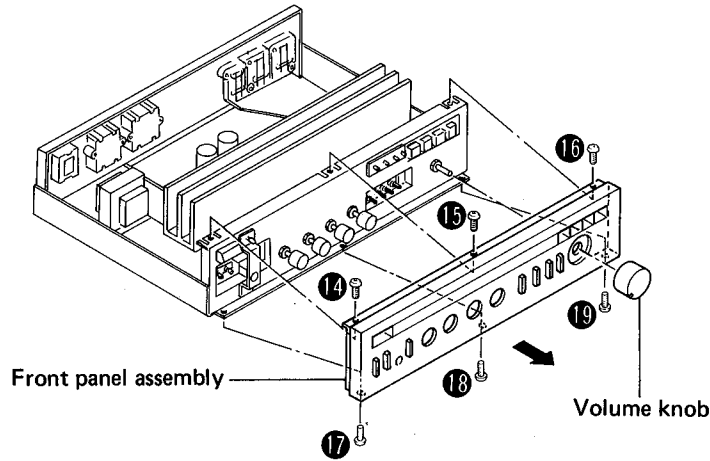

Fig. 3
**FRONT PANEL ASSEMBLY REMOVAL (Fig. 3)**